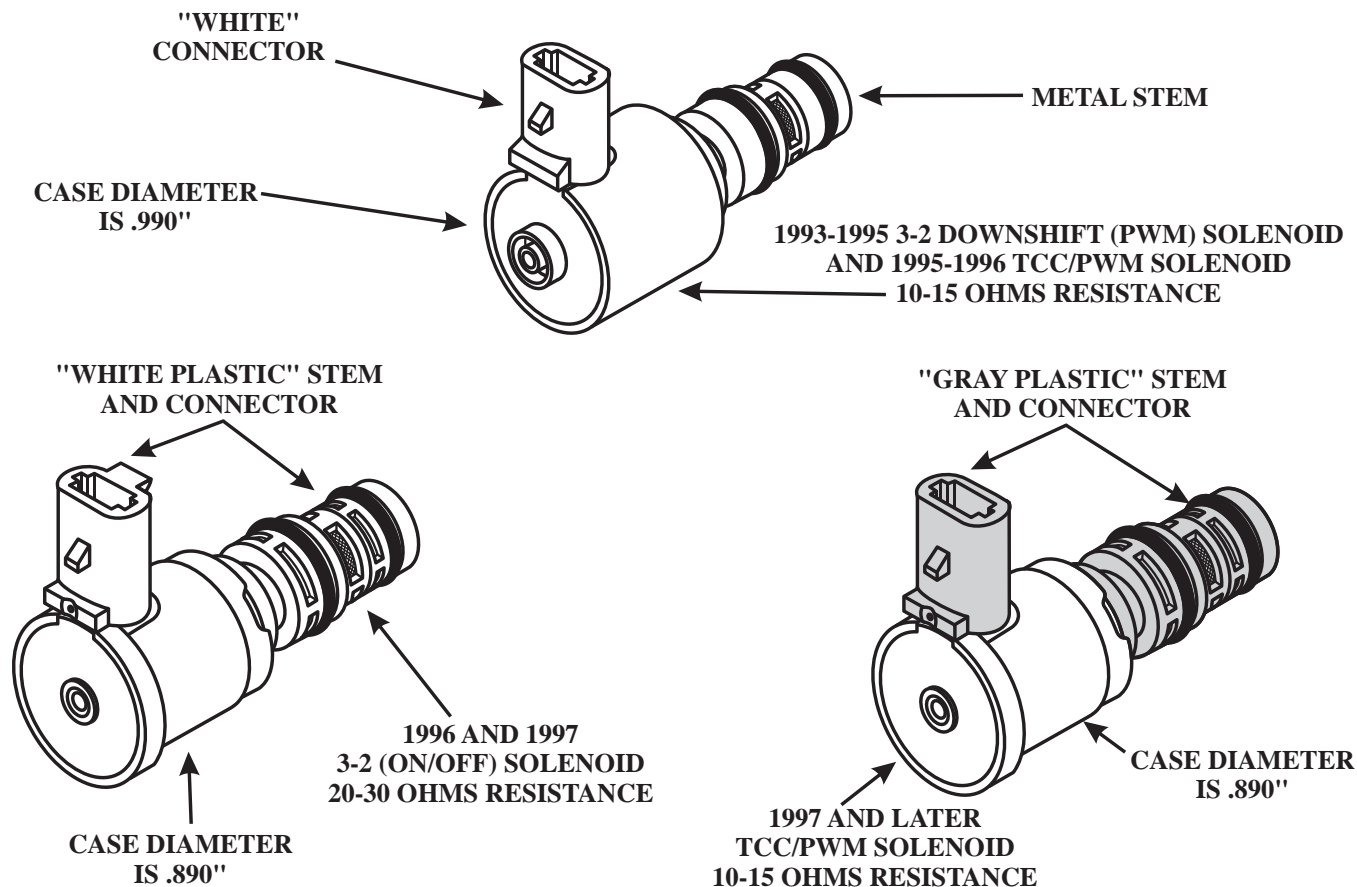

Figure 117
- Make certain the correct 3-2 solenoid is used for the application, PWM 1993-1995(10-15 Ohms), ON/OFF 1996 and later, (20-30 Ohms), Refer to Figure 117.